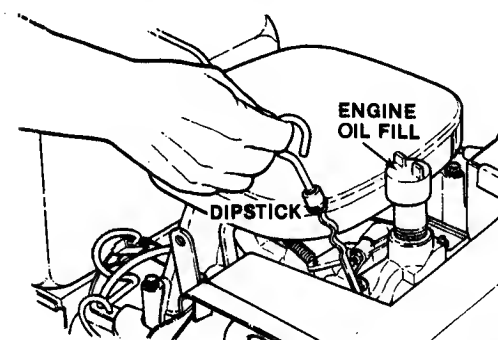

FIG. 12 - ENGINE OIL CHECK
- **ENGINE OIL:** Change oil in crankcase. Refer to engine owner's manual. Refer to FIG. 12.